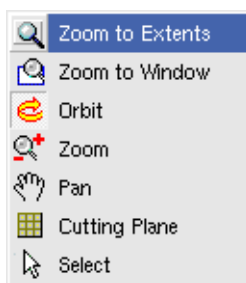

Figure 6 Toolbar buttons for zooming, panning, and orbiting with mouse operations
- Choose **View > Interactive Mode**, or click the corresponding toolbar button (see Figure 6).